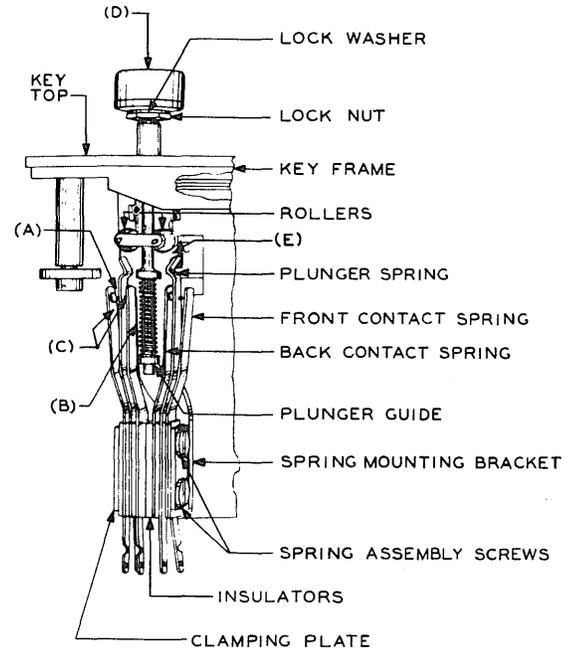

Fig. 4—Contact Separation and Spring Clearance
- (b) **Fig. 4(A)**—On units having spring combinations other than those covered in (a) or (c), on all units of the E6A and E6B, on the front units of the 575A, A36A, G3B, and G3J keys, the two front units of the 575C and A36C keys, and the middle unit of the G3B key, the separation between any pair of contacts operated directly by the plunger spring shall be
- (a) **Fig. 4(B) and 7(A)**—There shall be a clearance between springs designed never to make contact and between any contact spring and the frame, whether in the operated or unoperated position of the key, of
- (c) **Fig. 4(E)**—With the plunger in the normal position, there shall be a perceptible clearance between the plunger springs and the rollers.
(b) Fig. 4(C)—*On units having spring combinations other than those covered in (a), on all units of the E6A and E6B keys, on the front units of the 575A, A36A, G3B, and G3J keys, the two front units of the 575C and A36C keys, and the middle unit of the G3B key*, the contact pressure between the normally closed contacts and between the contacts closed, when the plunger is in the operated position, shall be
2.10 Plunger Operate Pressure—Fig. 4(D)